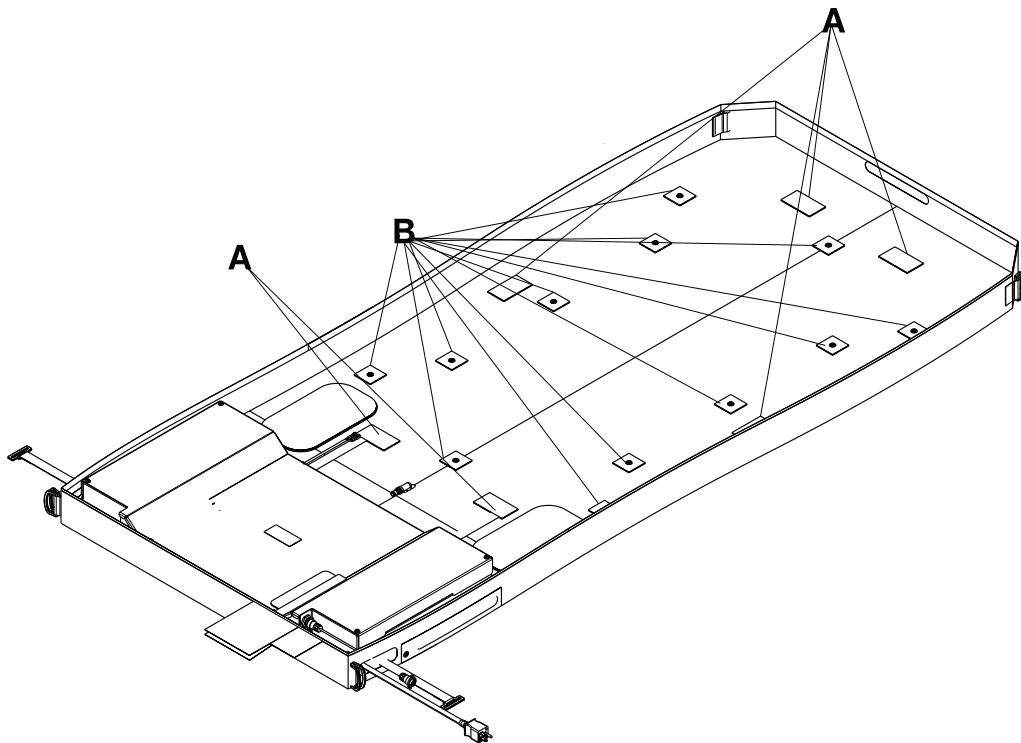

Figure 1-33: Pod Velcro® and snap retainers
7. Lift up on the foam crib, reach between the foam crib and the bottom cover to unhook the six Velcro® retainers (A) and unsnap the 12 snap retainers (B) (Figure 1-33 on page 1-62). Repeat for the opposite side.